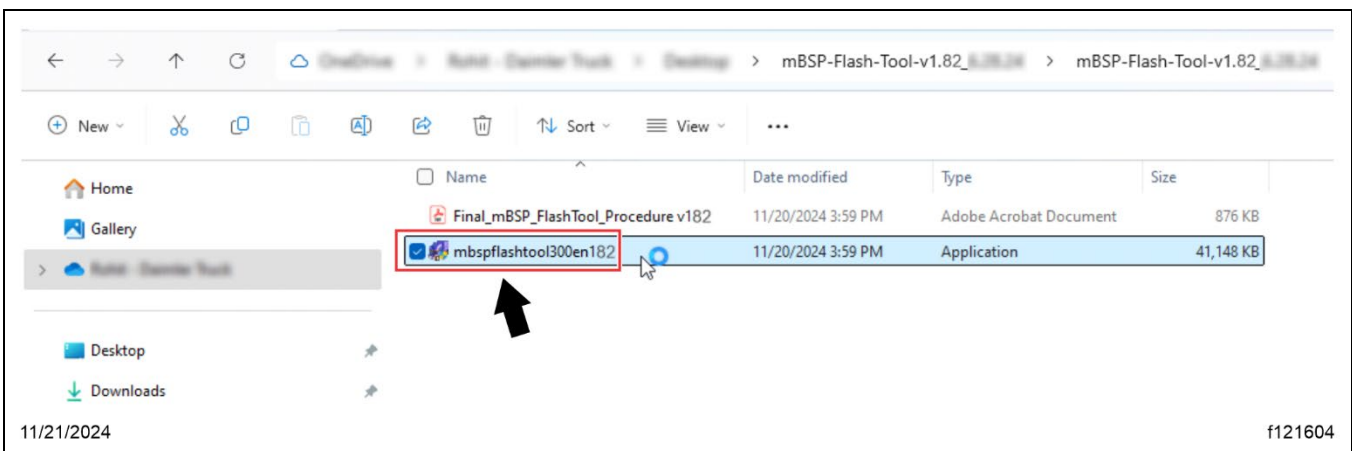

Fig. 28, Launching the Application File
7.1. Double-click to run the 'mbspflashtool300en185.exe (or later)' application file. See Fig. 28.